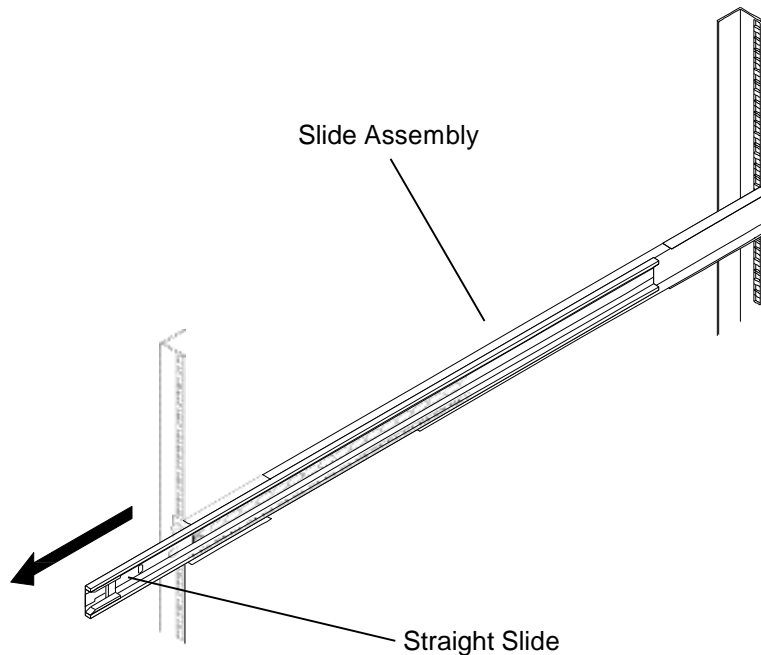

Figure 5-25 Straight Slide Extended from the Slide Assembly
2. Pull the straight slides out from the slide assemblies. Refer to Figure 5-25.